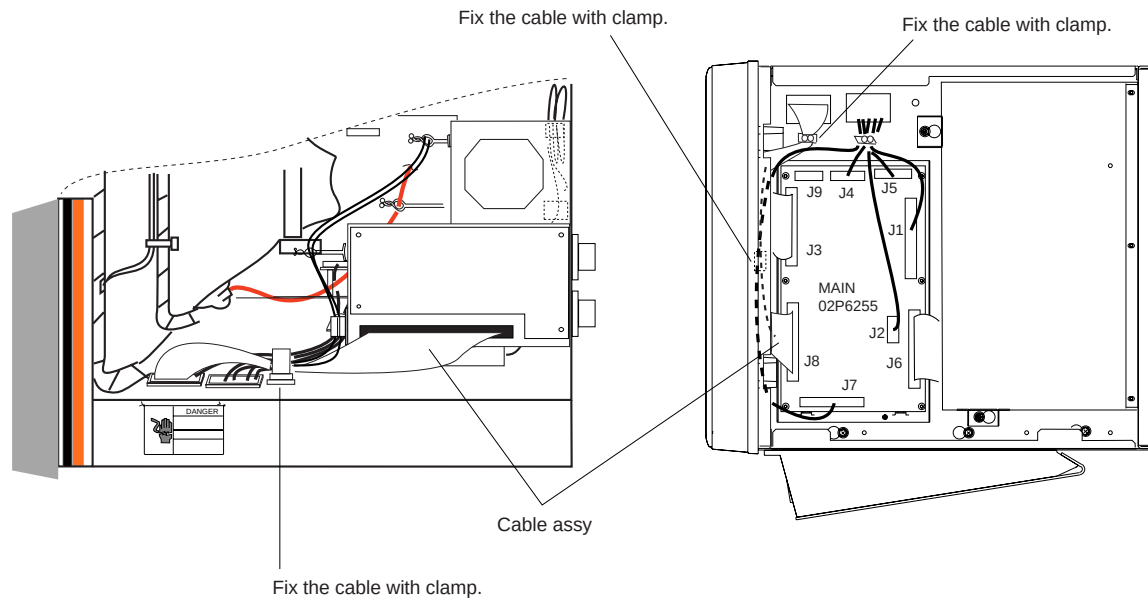

Figure 2-12 Location of clamps
7. Fix the cable from J1 on the EXIF Board with three clamps as shown Figure 2-12